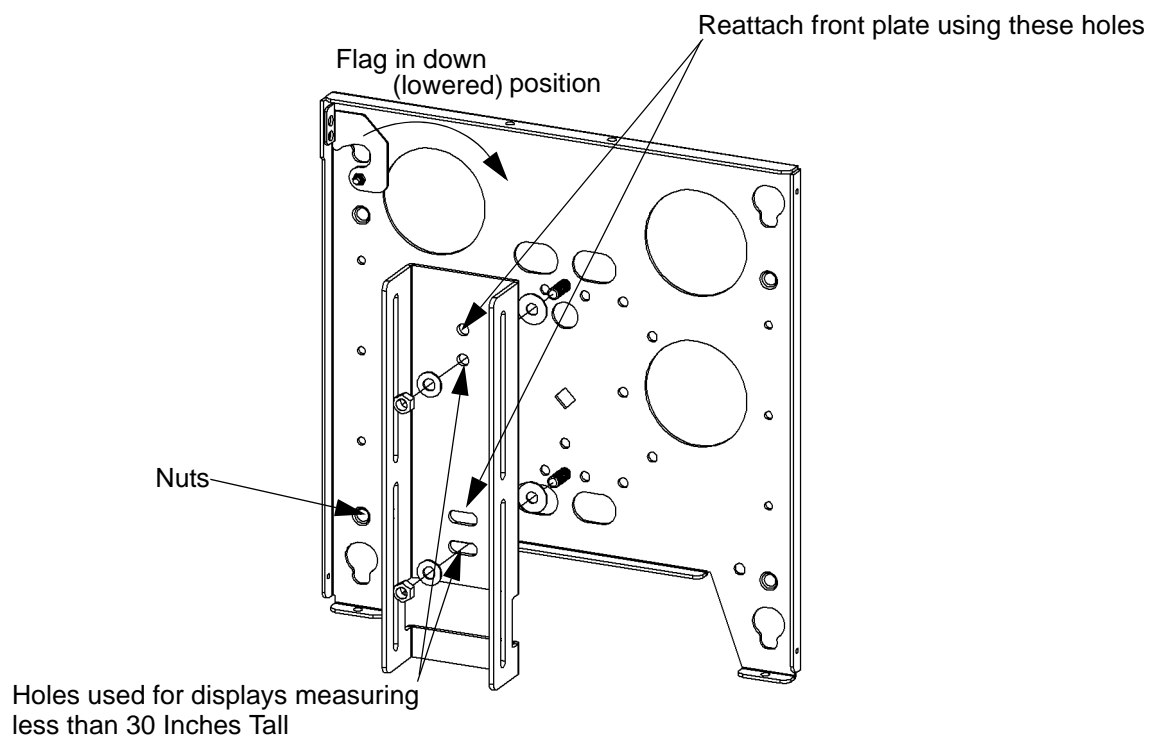

Figure 4. For displays Taller Than 30 Inches
3. Install the front plate in the upper mounting holes of slide and secure using the two nuts removed in the previous step (see Figure 4).
1. Make sure the latching flag of the stand is in the open (lowered) position (see Figure 4).